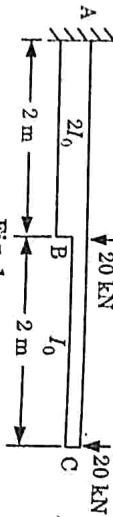

Fig. 1.
b. Determine the deflection and rotation at the free end of the cantilever beam shown in Fig. 1. Use unit load method. Given  $E = 2 \times 10^5 \text{ N/mm}^2$ , and  $I = 12 \times 10^6 \text{ mm}^4$ .